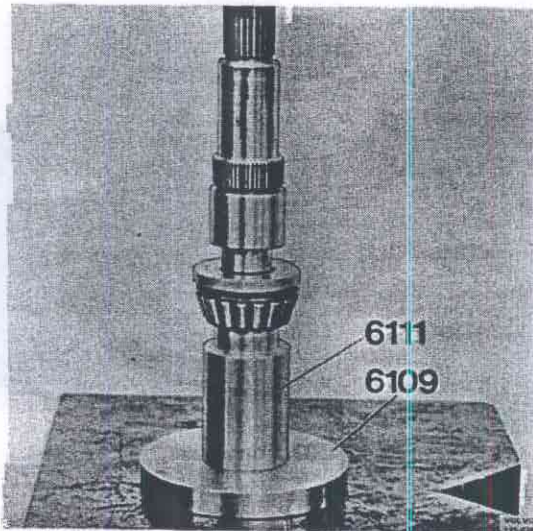

Fig. 43-185. Pressing on bearing
1. Place drift 6111 in plate 6109 and place them on the press table. Press the inner race and washer on the output shaft, Fig. 43-185.